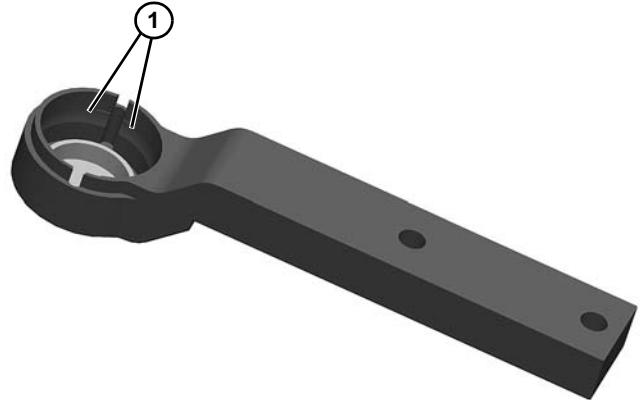

Figure 14
- Inspect the head plates bearing seating surface (**Figure 14, item 1**). If they are worn or damaged, replace. See "Service Parts" on page 14.